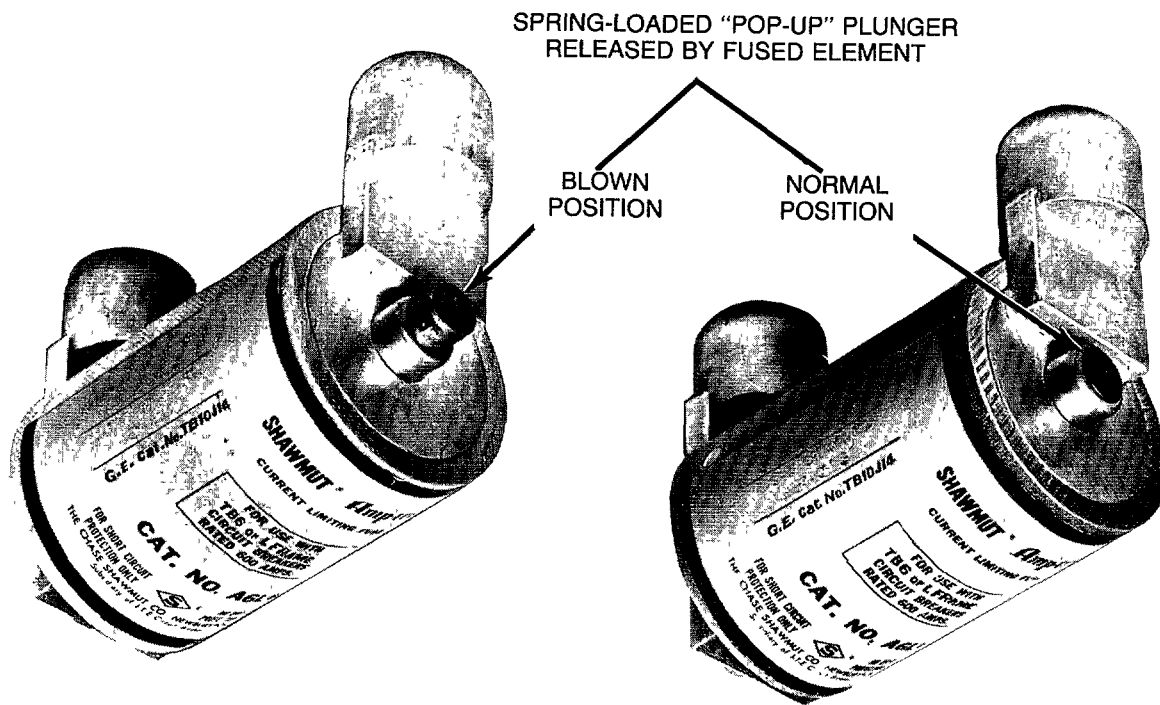

Figure 4 Fuse-type current limiters in the blown and normal positions
- The circuit breaker cannot be closed because the "pop-up" plunger of the fuse-type current limiter, shown in Figure 4, actuated the trip.
- Remove the current limiter cover and replace the blown limiters. Blown fuse-type current limiters can be identified by the "pop-up" plunger, as shown in Figure 4.